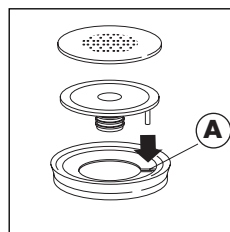

fig. 33
- Replace the filter and gasket on the plastic disk. Ensure that the pin on the plastic disk is inserted into the hole in the gasket indicated by the arrow (fig. 33).